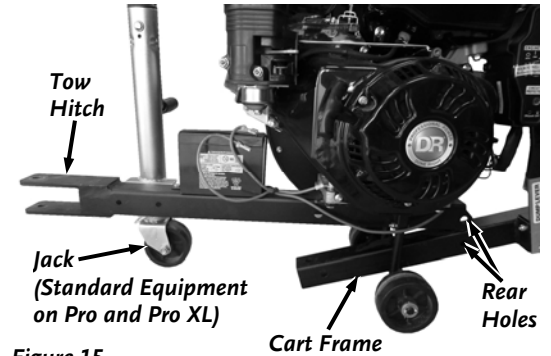

Figure 15
3. **Machines with Jacks:** Remove the Locking Pin from the lower portion of the Jack and crank the Jack Handle so the Power Unit Tow Hitch is lowered as far as it will go towards the ground (**Figure 15**).